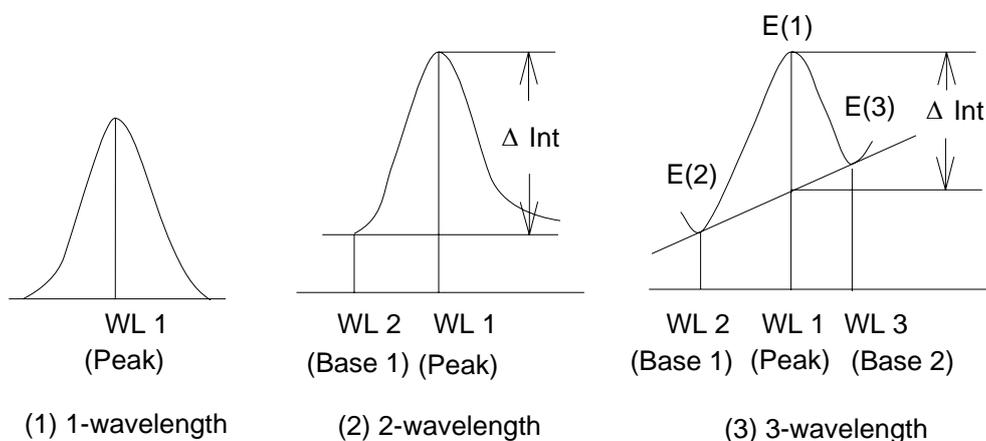

Fig. 4.14 Quantitative analysis methods
Used for common solution sample (Fig. 4.14 (1)).
Performs baseline(background) correction (Fig. 4.14 (2)).
Performs baseline(background) correction (Fig. 4.14 (3)).
One, two or three wavelengths can be selected depending on the condition of the sample. Figure 4.14 illustrates the